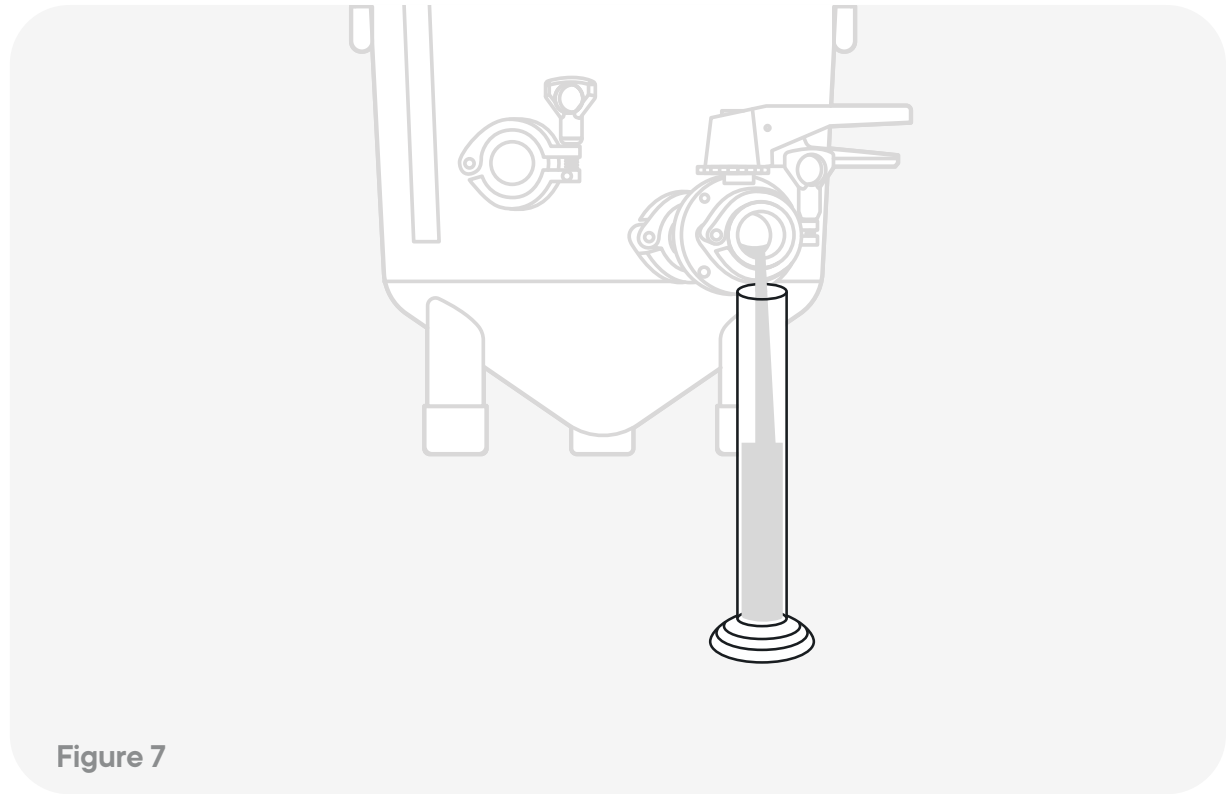

Figure 7
2. Instead, we recommend taking a sample from the Flex and filling a hydrometer with a sample to check gravity as fermentation moves along. (see **Figure 7**)